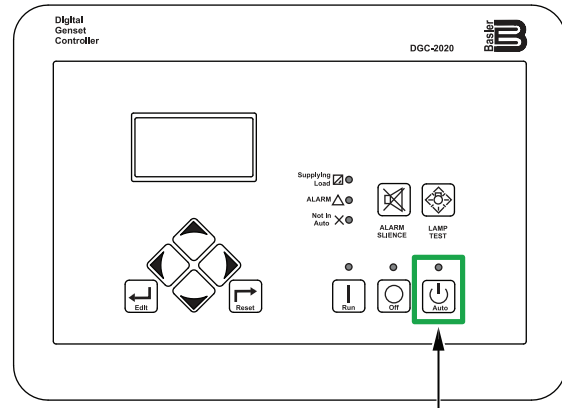

Figure 44. Digital Controller (Auto Button)
2. Press the **Auto button** (Figure 44) on the digital controller. When a start signal is received from the auto-start contacts, the engine will start automatically after the preheating process has completed.